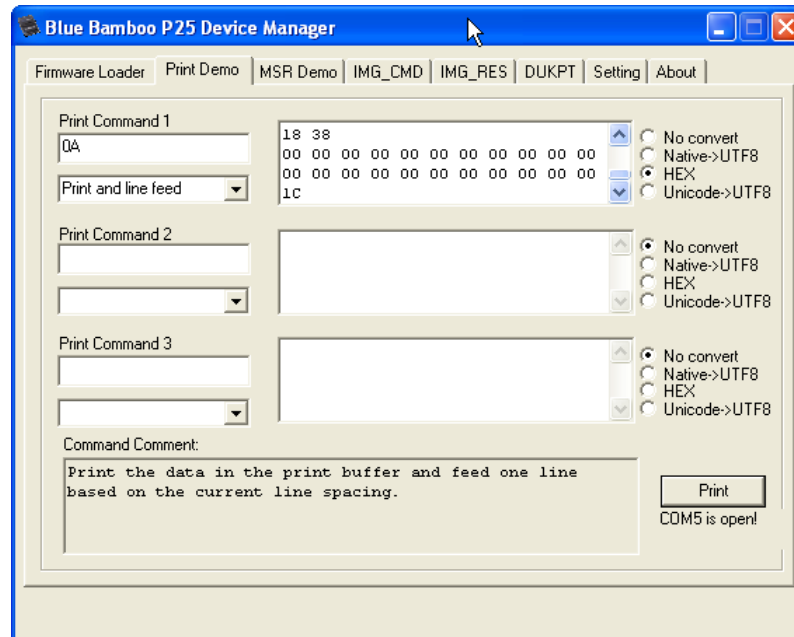

Figure 36
- e. The binary data will be separated into several parts if the image file is larger. Each part is an independent printable section. You can select one part and test to print it in **Print Demo** page as shown in Figure 36.